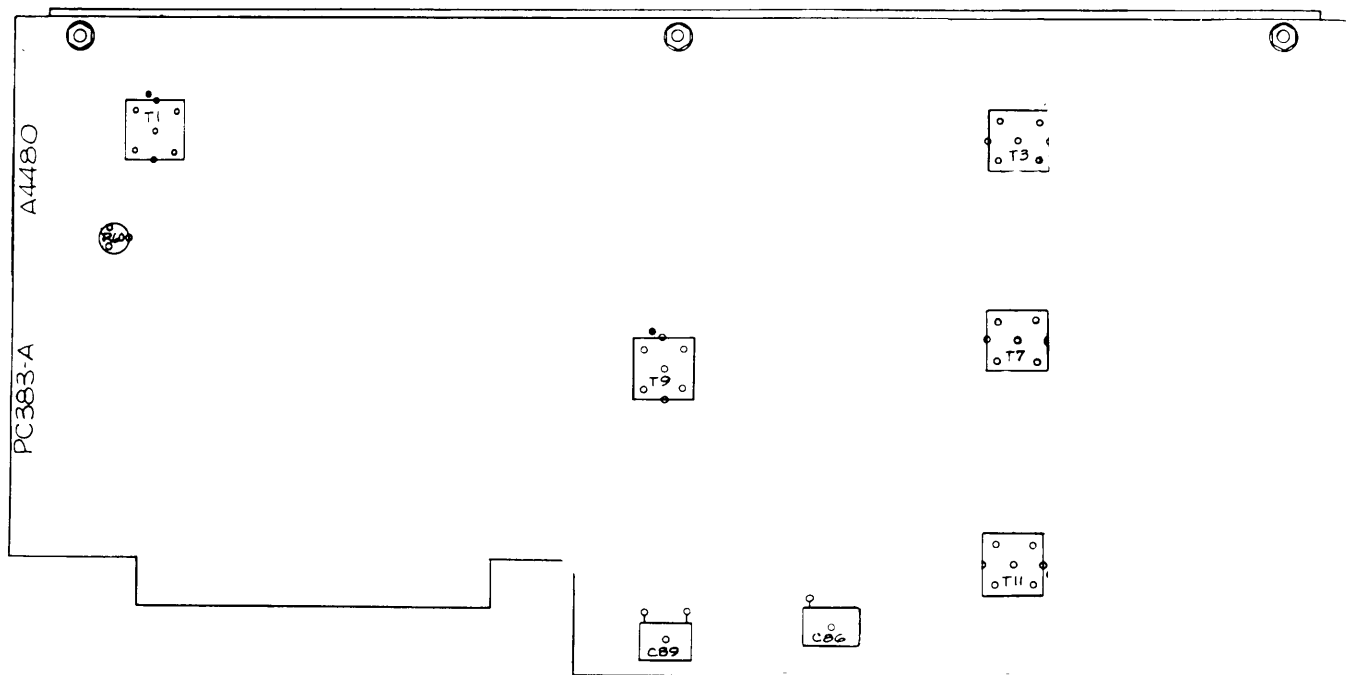

Figure 5-4. Spectrum Generator Z101, Adjustments
b. SPECTRUM GENERATOR Z101. (See figure 5-4.) Align the spectrum generator board as follows: